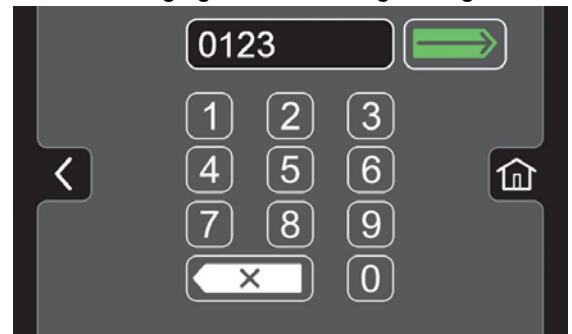

FIG. 144
5. Create an assigned login number for the new user profile then press the green arrow (Figure 144). The new login number can be any combination of numbers ranging from 3 to 8 digits long.